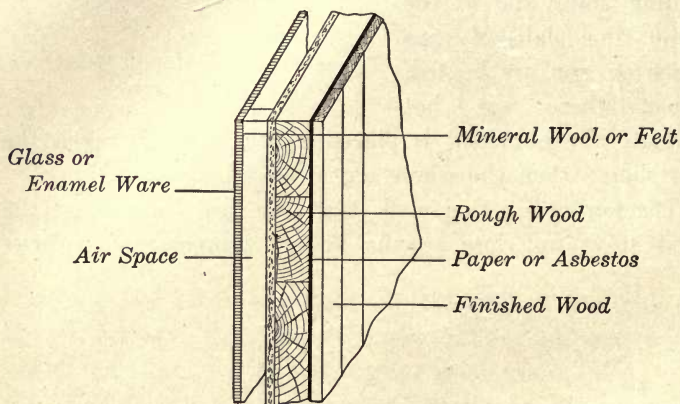

FIGURE 28.—THE CROSS SECTION OF A REFRIGERATOR WALL.
52. The Refrigerator. — The refrigerator (Figure 28) uses non-conducting substances for its walls. On the outside is usually wood; next is an insulating layer of paper; then another of wood; then a layer of asbestos or felt; and then an air space. The inside material is usually glass,